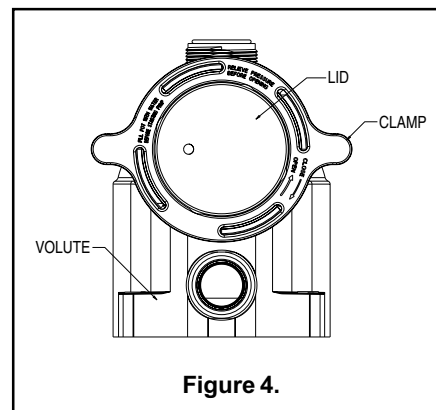

Figure 4.
- a. Make sure the lid O-ring is properly placed. Seat the clamp and lid then turn clockwise until the handles are horizontal; see **Figure 4**.